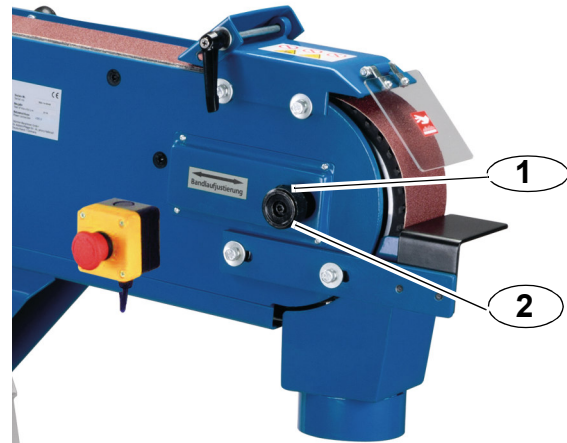

Fig. 6: Belt run adjustment
The run of the sanding belt can be changed using the sanding belt adjustment screw (Item 1, Figure 6). Check the run of the sanding belt by gently moving it by hand. To change the running direction of the sanding belt loosen the hexagon head screw (item 2, Fig. 6) within the adjusting screw (item 1). Then you can change the tape running direction of the sanding belt by turning the adjusting screw (item 1, Fig. 6) in a clockwise or counterclockwise direction. Then move the sanding belt by hand again and check the correct run. If necessary, change the run again.
Tighten the hexagon screw (item 2, Fig. 6) again.